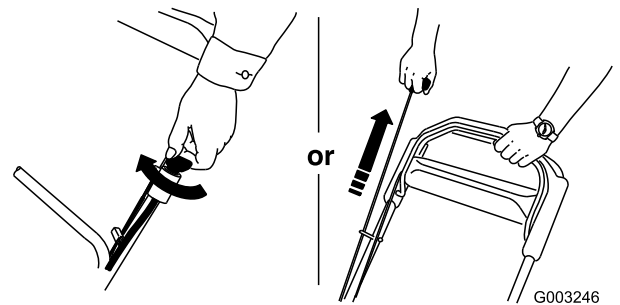

Figure 20
3. Start the engine using either the ignition key (model 20796 only) or the recoil starter (Figure 20).